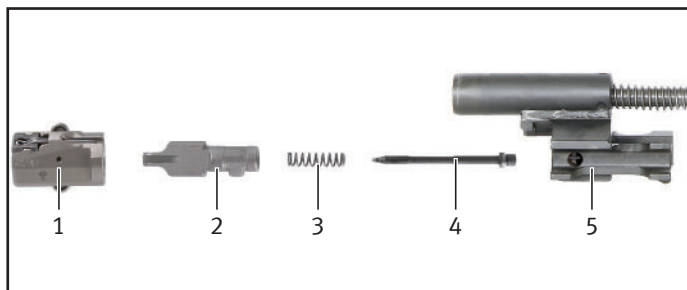
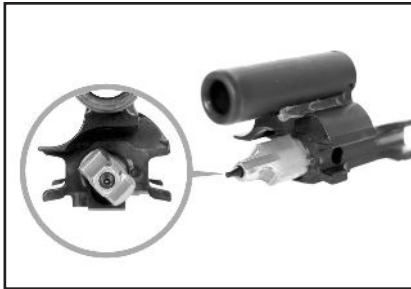

Fig. 39 – Assemble bolt group
Fig. 40 – Assembly position for locking piece
1. Push pressure spring for firing pin into firing pin (Fig. 39).
2. Place firing pin with pressure spring for firing pin into bolt head carrier (Fig. 39) Observe assembly position of locking piece (Fig. 40).
4. Turn locking piece anti-clockwise until assembly position has been reached (Fig. 40).